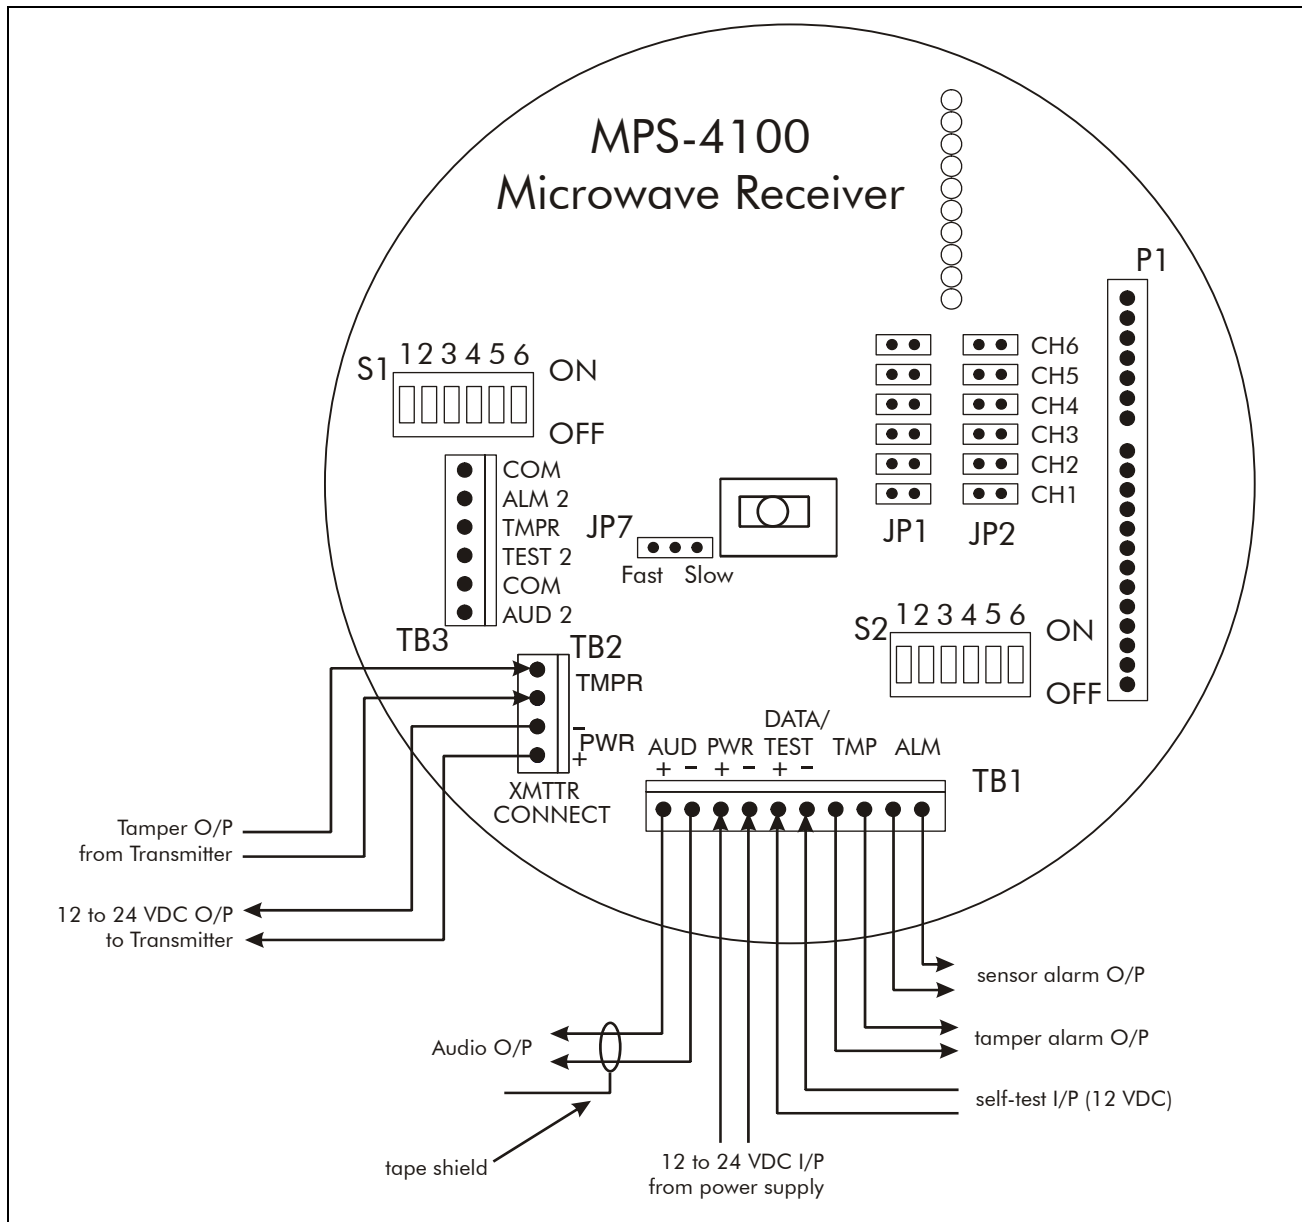

Figure 2-9 MPS-4100 Receiver connections for relay output
1. Connect the power, alarm, tamper, self-test, and audio pairs to TB1 (see Figure 2-9). **Observe polarity.**